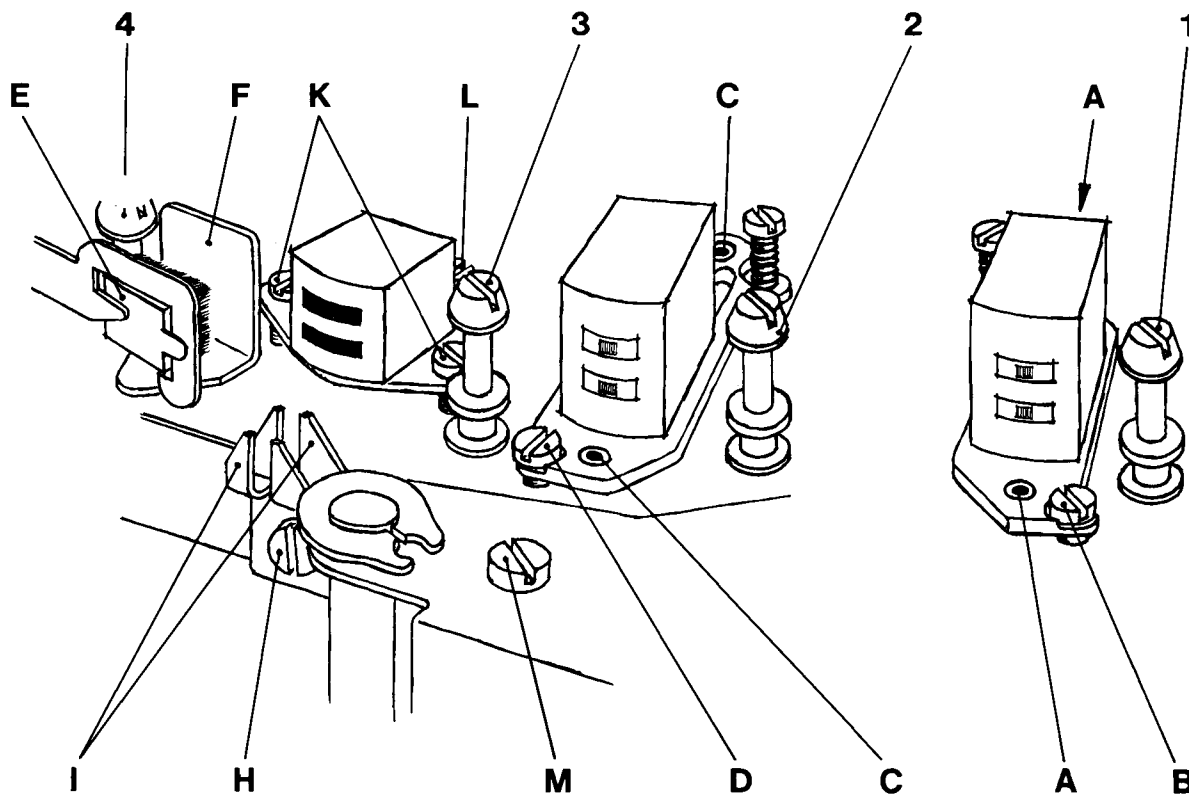
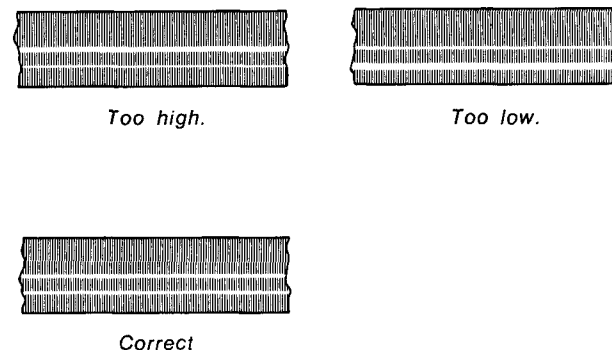

Fig. 4.1. Tape path adjustment screws.
Fig. 7.2. Track measurement of erase head.
Insert a new tape, and start the recorder in normal forward drive. Check visually that the tape appears to run parallel with the upper track of the record head, with a play of approx. 0.1 mm (4 mils). If necessary, adjust the height with screws (C) fig. 4.1, while endeavouring to maintain the headfront parallel to the tape.
Set the tape recorder in stereo record mode, and unscrew the locking screw (H) fig. 4.1, about $\frac{1}{2}$ turn. Connect a VTVM across each one of the record head halves. Move the bias head up or down by means of adjustment screw (M) for the highest possible reading on the voltmeter. Check that the tape runs freely in the groove in front of the bias head and that there is sufficient clearance between the bias head and the mounting plate for the record head. The height position of the bias head is not critical, and if the clearance between the bias head and the mounting plate for the record head is insufficient, raise the bias head slightly.
Connect a VTVM across each one of the record head-halves, and set the tape recorder for stereo recording. Insert a screwdriver in groove I, ref. fig. 4.1, and pull the bias head to the right.
By visual inspection, check that approx. 0.25 mm (10 mils) of the upper half of the erase head is visible above the tape. Insert Tandberg test tape No. 9 and record a 400 Hz signal at $7\frac{1}{2}$ ips well above normal level on channel R (track 3). Dip the tape in a solution of fine grained iron oxide powder and alcohol (Magna See solution). Check that the recorded track is positioned in centre of the erased track. Make sure that no parts of the adjacent tracks are erased, see fig. 7.2. If necessary, adjust the height of the erase head by means of the screws (K) and (L) ref. fig. 4.1, and repeat the above check.
Check that the head front of the erase head is perpendicular to the mounting plate. If necessary, adjust azimuth position by means of the screws (K) ref. fig. 4.1. This adjustment is not critical.
The height of the playback head is aligned by the height adjustment screws (A), ref. fig. 4.1. The upper edge of the tape shall run flush with the upper part of the head lamination for channel L.
Set OUTPUT selector to position STEREO. Play back a standard azimuth alignment tape with a VTVM connected to each output. Adjust the position of the playback head by the azimuth adjustment screw (B) ref. fig. 4.1, until maximum reading is obtained on the output meters.
The height of the erase head is aligned by the height adjustment screws (K and L) ref. fig. 4.1. Approx. 0.25 mm (10 mils) of the ferrite core for the upper track of the erase head should be visible above the tape.
Insert a full-track prerecorded tape and record a 1.000 Hz signal from a generator, well above optimum recording level in mono on track 3 (channel R). Cut the tape and dip it into the Magna See solution. Check that the prerecorded track is in the centre of the erased area, ref. fig. 7.2. Adjust the vertical position of the erase head if necessary.
The height of the erase head is aligned by the adjustment screws (K and L) ref. fig. 4.1. Record a 1.000 Hz signal in stereo well above optimum recording level on a full-track prerecorded tape. Dip the tape in the Magna See solution and check that the tracks are distributed symmetrically across the tape. Readjust the erase and the record heads, if necessary.